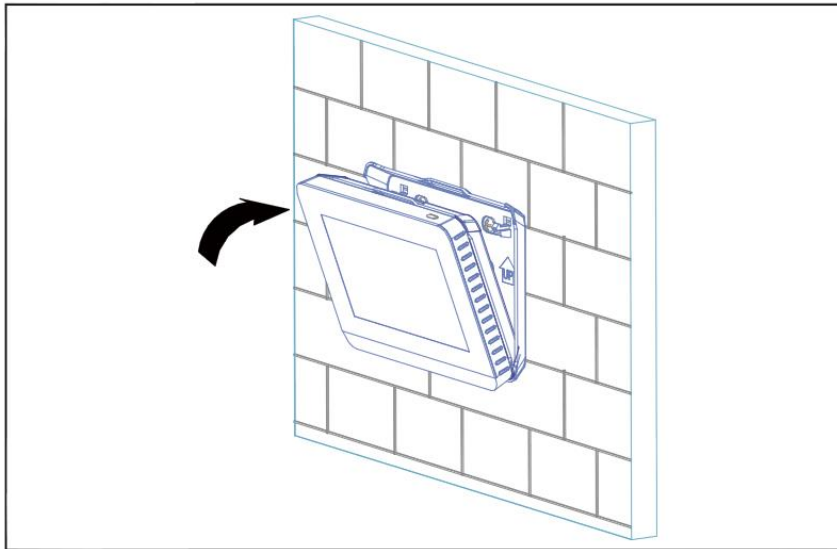

Figure 6
3.1.5 Press the upper part of the centralized controller into the back cover, so it gives a click sound , as shown in Figure 6.